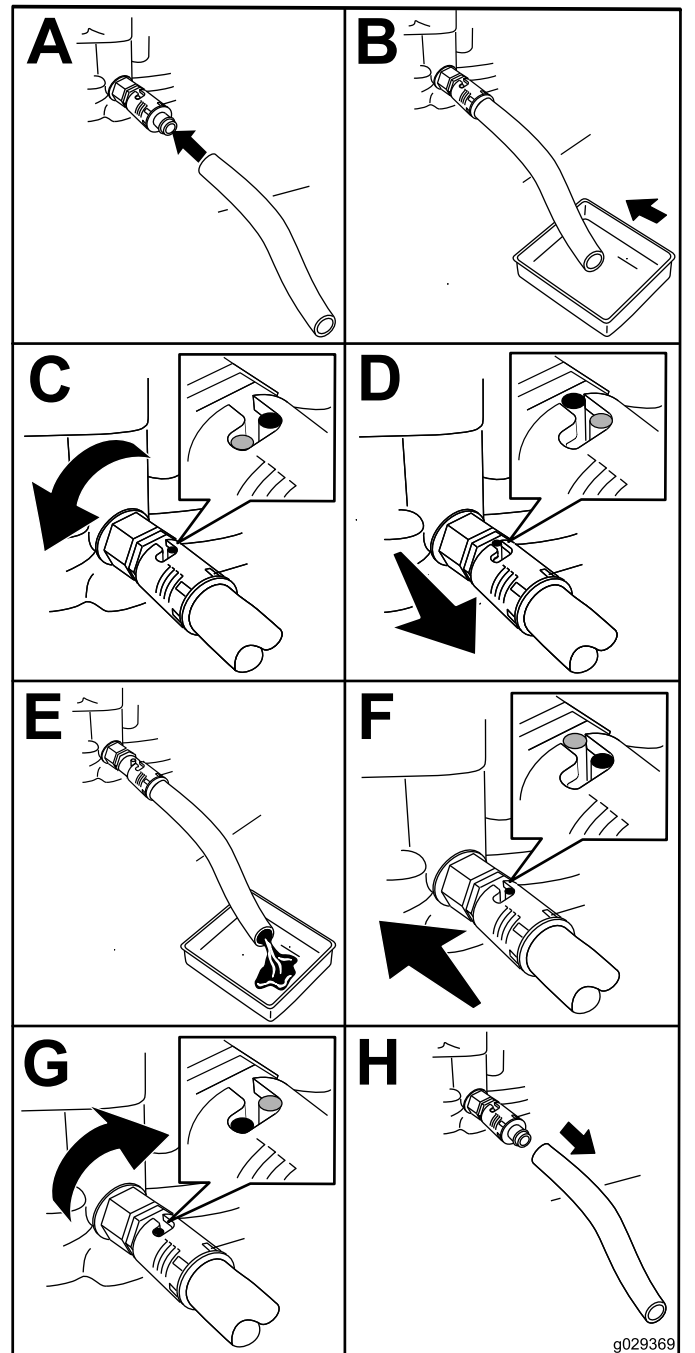

Figure 31
4. Install the drain hose onto the drain valve (Figure 31).
5. Place the other end of the hose into a suitable container for oil (Figure 31).
6. Turn the oil drain valve 1/4 turn counterclockwise to start draining the oil (Figure 31).
7. When all the oil is drained, turn the oil drain valve 1/4 turn clockwise to close the valve (Figure 31).